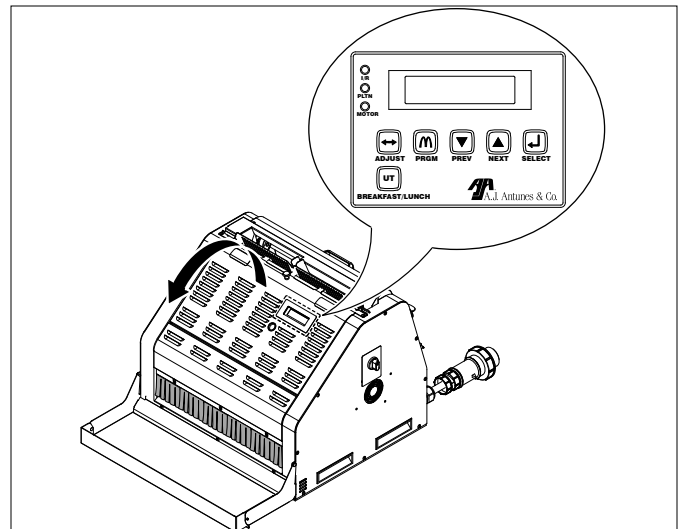

Figure 3. Accessing the UTX-200 Control Panel
1. Open the Front Cover to access the Control Panel (Figures 3 and 4).